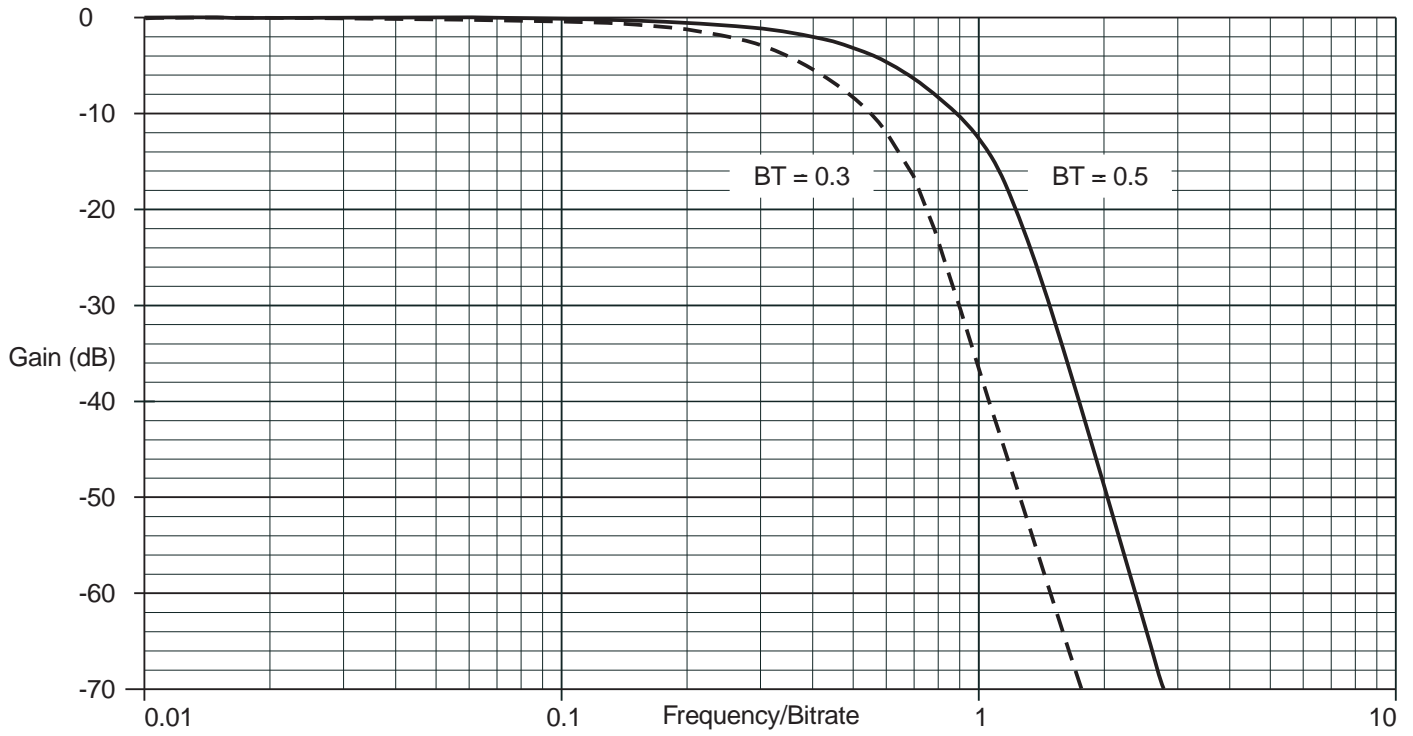

Figure 9: Tx Filter Response
The TX Filter has a lowpass frequency response, which is approximately gaussian in shape as shown in Figure 9, to minimize amplitude and phase distortion of the binary signal while providing sufficient attenuation of the high frequency-components which would otherwise cause interference into adjacent radio channels. The actual filter bandwidth to be used in any particular application will be determined by the overall system requirements. The attenuation-vs.-frequency response of the transmit filtering provided by the MX589 has been designed to meet the specifications for most GMSK modem systems that are -3dB bandwidth switchable between 0.3 and 0.5 times the data bit-rate (BT).